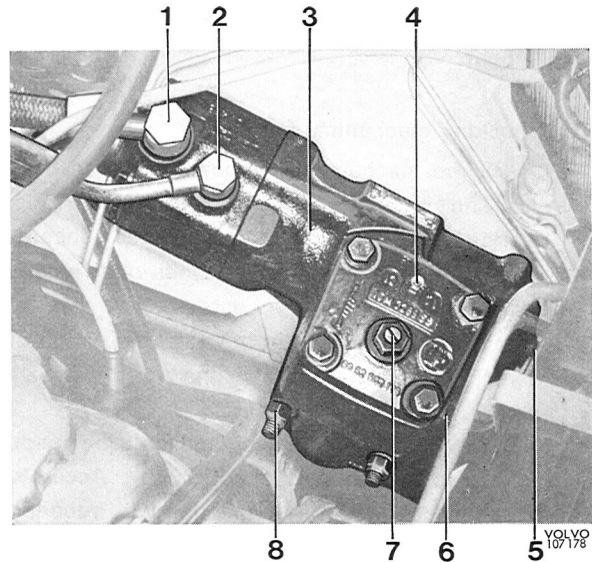

Fig. 6-74. Steering gear installed
Jack up the front end. Screw out the drain plug (6, Fig. 6-74). Turn the steering wheel to the left to the stop position. Remove the cover on the container.
4. Open the bleeder screw (4, Fig. 6-74) $\frac{1}{2}$ —1 turn. Close it when oil starts flowing out.
- c) Slacken the nut for the adjusting screw (5, Fig. 6-74).
4. Disconnect the oil lines (1 and 2, Fig. 6-74) from the steering housing after the connections have been cleaned. Slacken the clamping bolt.
5. Remove the attaching bolts (8) and pull the steering gear forwards.
3. Install the steering gear spindle in the flange of the lower steering column section. Install and tighten the attaching bolts (8, Fig. 6-74). Tighten the clamping bolt. Check that the distance between the steering gear and the lower flange is 12 ± 3 mm. Connect the oil lines.